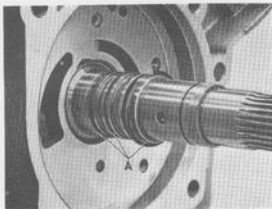

Fig. 4-108. Installing driven shaft oil rings
4. Fit the three oil sealing rings on the shaft, see Fig. 4-108. Exercise care when doing this as the oil sealing rings are very fragile. Stand the box on its front end and support under the shaft. Center the oil rings. The oil deflector flange is then fitted.